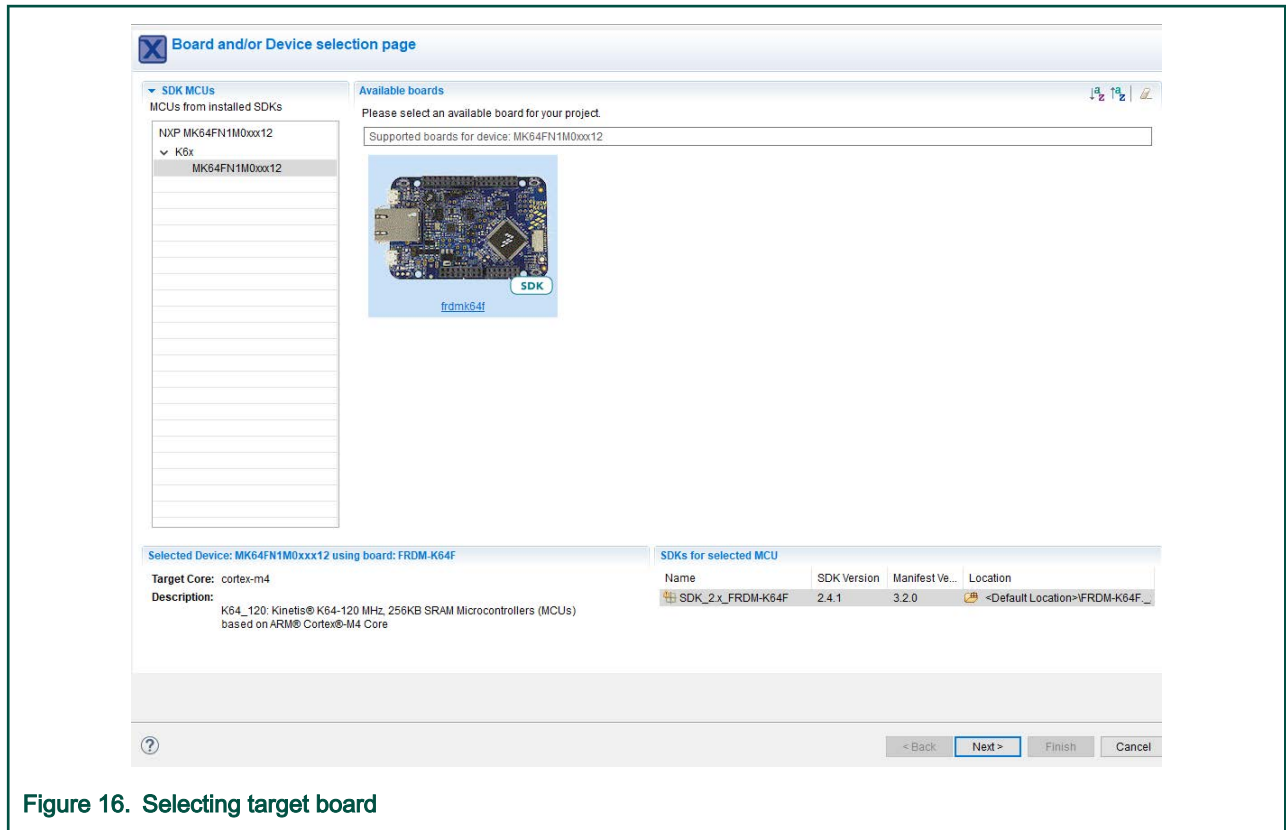

Figure 16. Selecting target board
3. A new window pops up, where you can select the desired board, as shown in Figure 16.